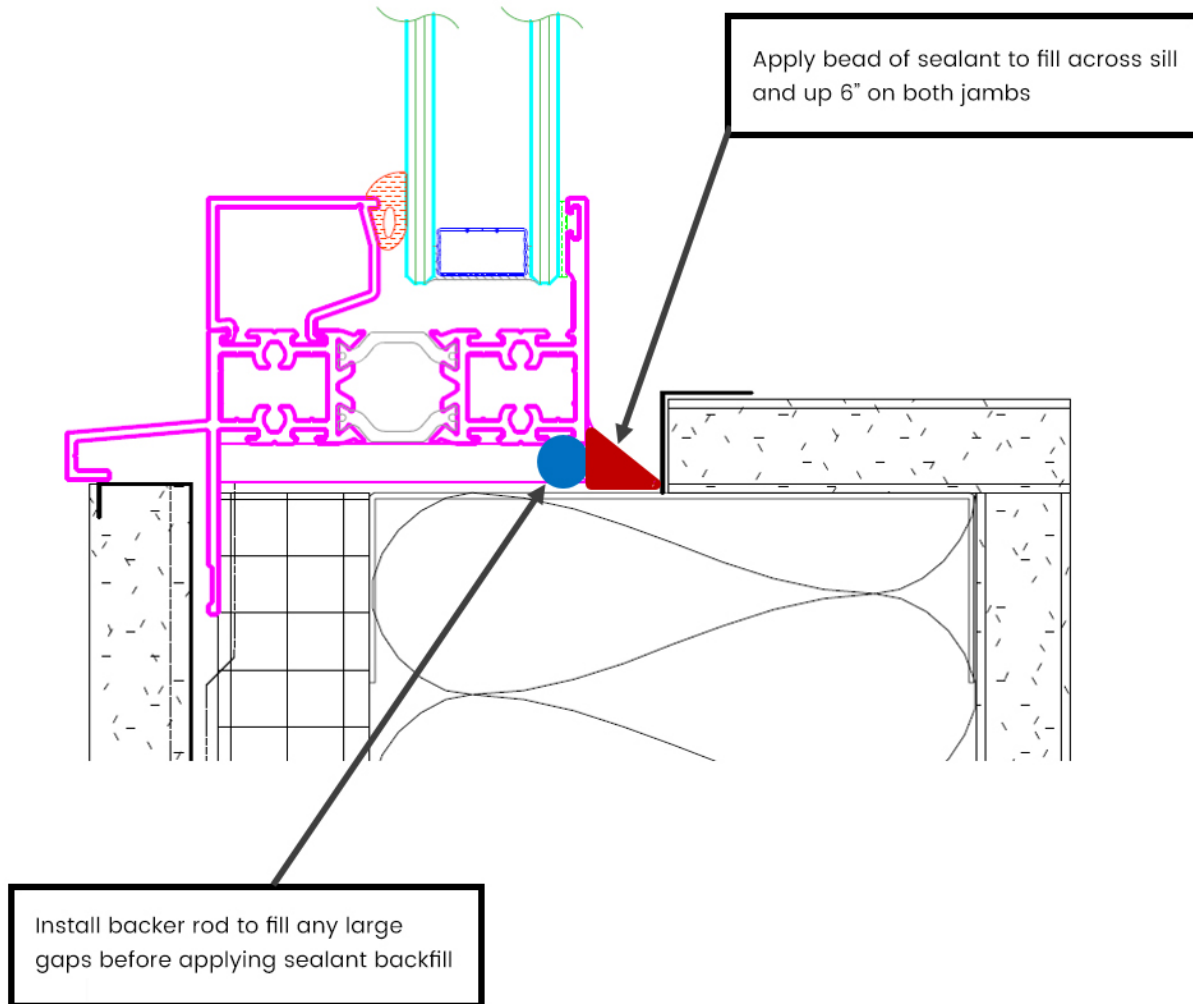

Figure 7
9. Seal interior of window as shown below in Figure 7.